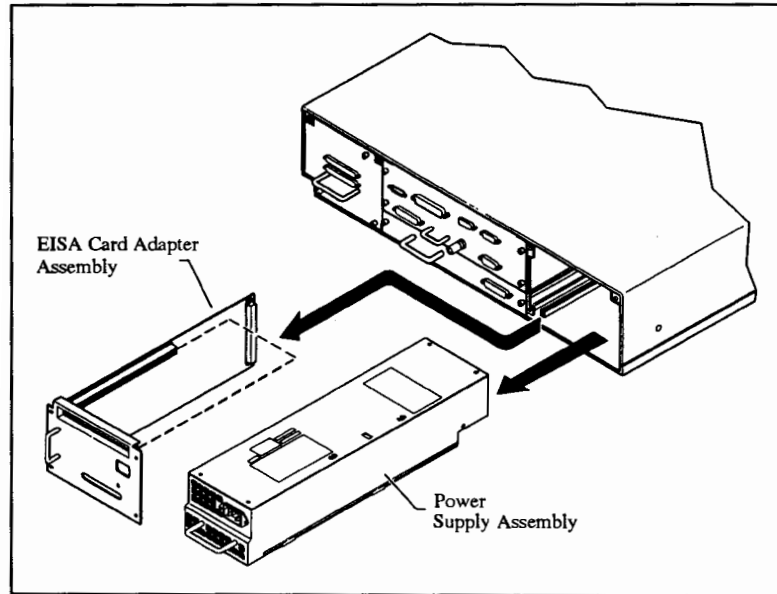

Figure 5-8. Power Supply Removal
- 3). Remove the Power Supply assembly from the System Unit cabinet as shown in Figure 5-8.